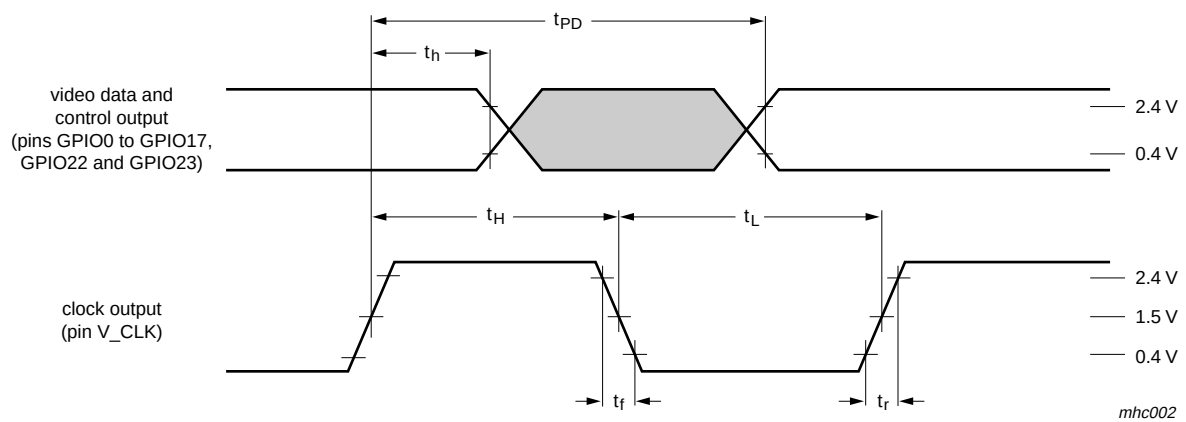

Fig 15. Data output timing (video data, control outputs and raw DTV/DVB)
**Video port outputs (digital video stream from comb filter decoder or scaler)**LLC and LLC2 clock output on pin V\_CLK; see Figure 15
Video data output (with respect to signal V\_CLK) on pins GPIO0 to GPIO17, GPIO22 and GPIO23; see Figure 15